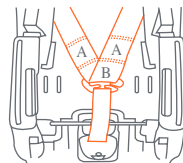
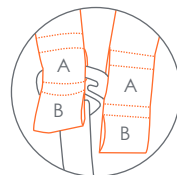

Fig. 30-2
Fig. 30-3
8. Reassemble the Harness Straps to the Belt Adjuster Plate. Do the left Harness Strap first, followed by the right Harness Strap. Check that Harness Straps are completely within the Belt Adjuster Plate loop (Fig. 30-2). You have two adjustment positions on the harness. Use Position A for a smaller child, and Position B for a larger child. If using Position A, loop B must be on top of the Belt Adjuster Plate. (Fig. 30-3)